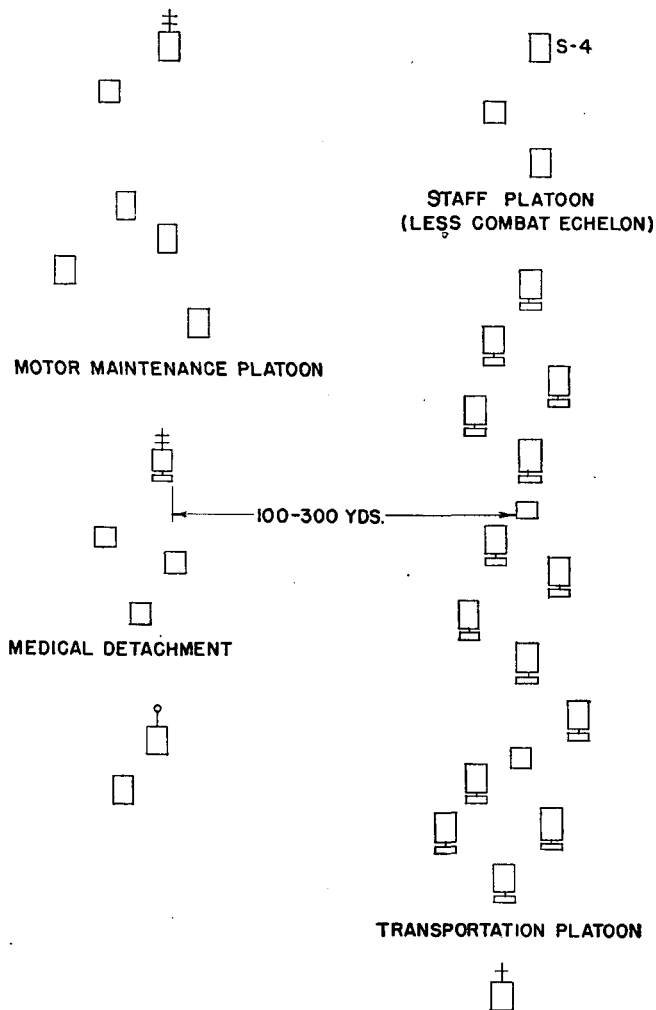

FIGURE 39.—Headquarters company, extended formation.
(3) *Company formation.*—See figure 39.
h. Medical detachment.—(1) The formations are: